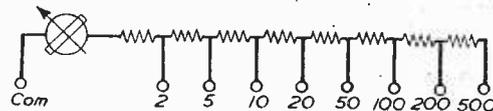

Fig. 2.—Series resistors arranged to give various voltage indications.
As an example of calculations we will assume that a meter of 2 mA. F.S.D. (full-scale deflection) has been obtained, and the resistance is 100 ohms. The voltage readings required are: 0-2, 0-5, 0-10, 0-20, 0-50, 0-100, 0-200, 0-500 volts. If the arrangement of Fig. 2 is used, the resistors can be of lower wattage rating and, therefore, will cost less; also, if a resistance on a low-range is overloaded the accuracy of all the ranges will be impaired, and the cost of repair will be higher. The resistors required for a series chain will be 900 for the two-volt range. It will be seen that a total resistance of 1,000 Ω is required, but that the meter has a resistance of 100, which leaves 900 for the resistance. The five-volt range will require an extra 1,500 ohms, the 10 volt a further 2,500, whilst the 20 another 5,000. This makes the highest resistance required that between the 200 and 500 scale, namely 150,000 ohms. The heat dissipated by a resistor is rated in watts, and can be calculated in three ways from Ohm's Law. First, it may be explained for those who are new to radio, that if a pipe has a 1-in. bore it will pass 1 in. of water irrespective of the pressure, but if the pressure is increased the rate of water will increase. So that at a pressure of 10 lb. per square inch we will only get half as much as at
20 lb. per square inch. This means that we will be getting so many gallons per minute, and at double the pressure, twice as much. This "gallons per minute" in electrical work is an amount of energy, and since energy cannot be destroyed, but converted from one type to another, we get a quantity of heat. This heat is calculated by multiplying the current (I) by the voltage (E). The three formulae are, W equals EI ; W equals $\frac{E^2}{R}$ (the small figure 2 indicates